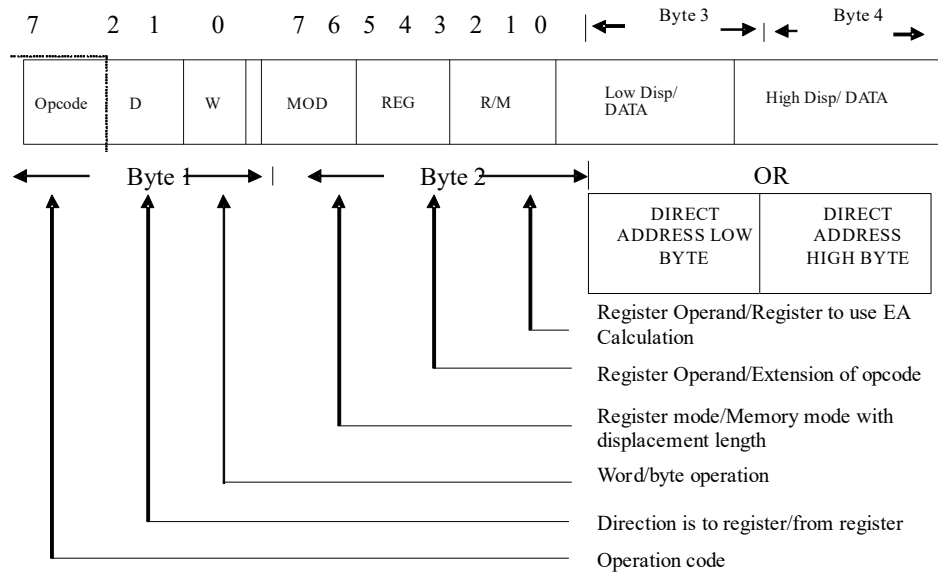

Fig. 5.5 General-Instruction Format Used by Multibyte
To convert an assembly language program to a machine code, you must convert each assembly language instruction to its equivalent machine code instruction. In general, the machine code for an instruction specifies things, such as what operation is to be performed on byte or what operand or operands are to be used, whether the operation is performed on byte or word data, whether the operation involves operands that are located in registers or a register and a storage location in memory, and if one of the operands is in memory, how its address is to be generated. All this information is encoded into the bits of the machine code for the instructions. The machine code instructions of the 8086 vary in the number of the bytes used to encode them. Some instructions can be encoded with just one byte, others in two bytes and many require even more. The machine code for instructions can be obtained by following the formats used in encoding the instructions of the 8086 microprocessor. Most multibyte instructions use the general-instruction format (Refer Figure 5.5). You can see that byte 1 contains three kinds of information: the operation code (opcode), the register direction bit (D) and the data size bit (W). The summary of the function of each of these pieces of information is as follows: